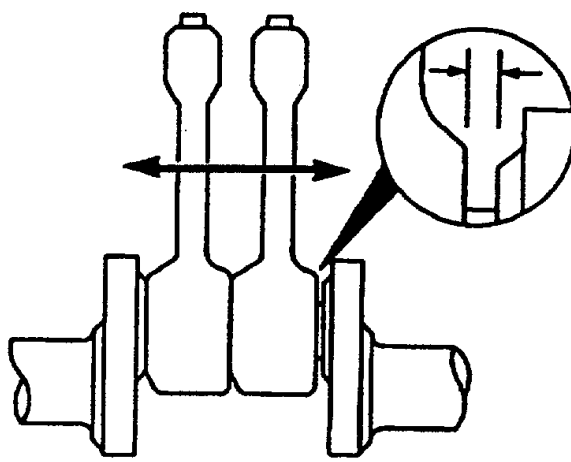

FIGURE 3-28. Connecting Rod Side Clearance Measurement.
- (13) Check the connecting rod to crankshaft side clearance. The tightened connecting rods should be free to move sideways on the crank shaft journal. Side clearance on a pair of connecting rods is 0.012 to 0.020 inch (0.30 to 0.51 mm) between rods or between the rods and the crankshaft (FIG. 3-28).
- (14) Replace cylinder head, paragraph 2-34.
- (15) Replace the handhole cover, paragraph 2-35.
- (16) Check engine for normal operation.